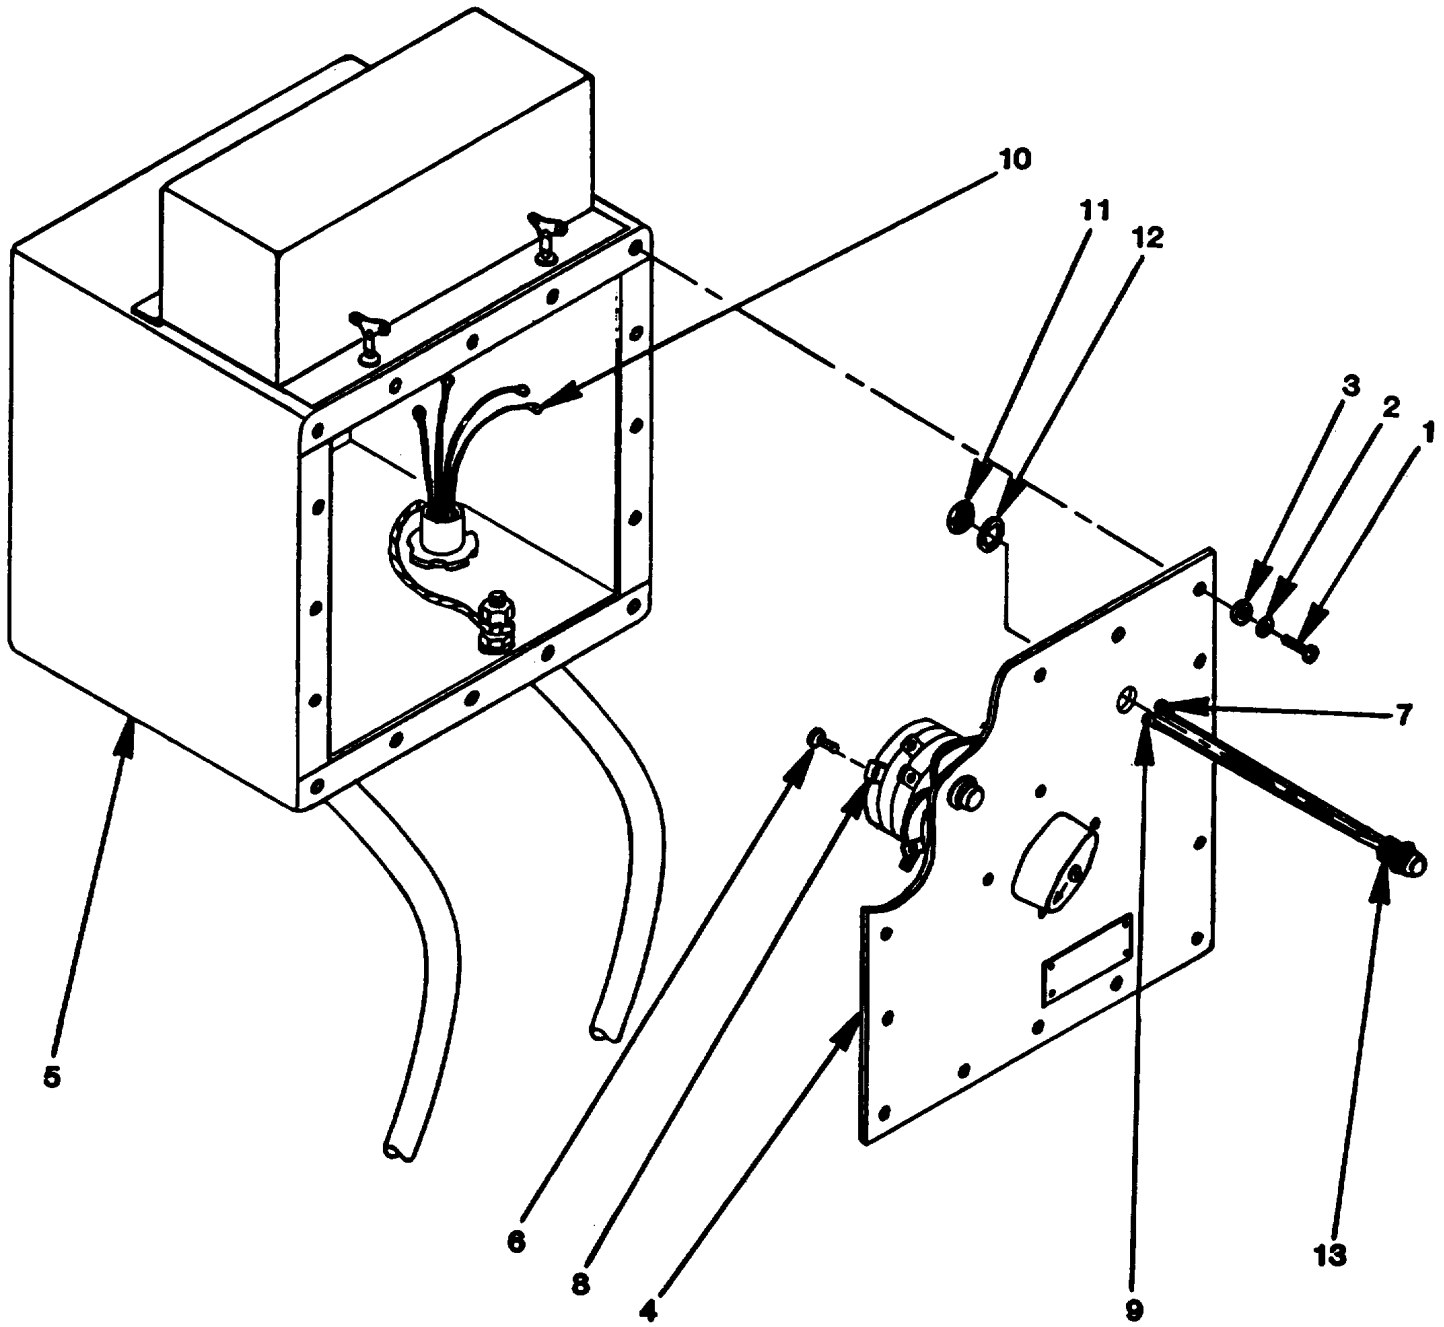

Figure 4-10. Switch Box Light and Wire Assembly Replacement.
- b. Removal (See figure 4-10). There are two indicator light and wire assemblies on the switch box. This procedure is typical for both. When attaching wires, refer to the schematic inside the switch box (figure 4-4).
- (1) Remove 16 screws (1, figure 4-10), lockwashers (2) and flat washers (3) securing cover (4) to switch box (5) and take cover off switch box.